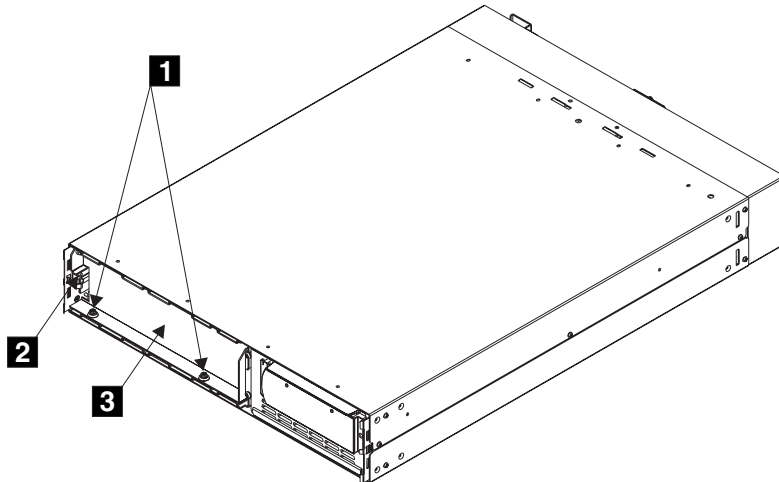

Figure 119. Remove the battery retaining bracket
- c. Remove the two bolts **1** and additional nut **2** on the left side of the bracket and remove the battery retaining bracket **3**. See Figure 119 on page 176.